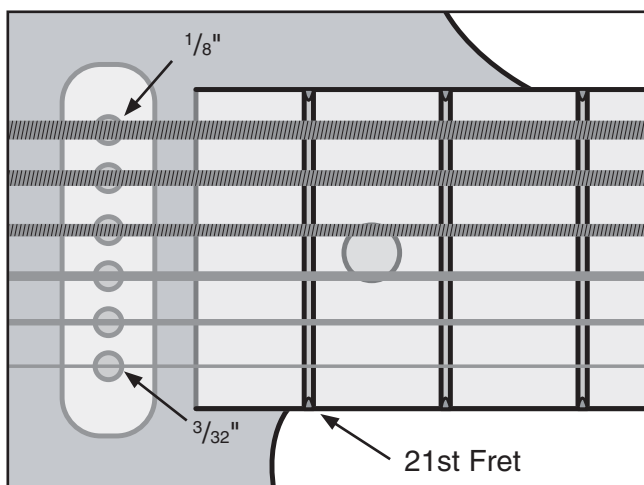

Figure 38. String heights over the pickup.
1. Measure the height of the 1st and 6th strings at the pickup while the strings are “fretted” at the 21st fret (**Figure 38**).